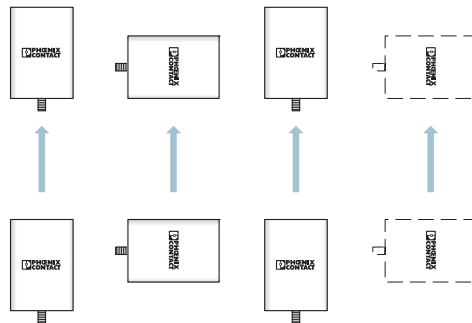

Figure 8-7 Decoupling of wireless paths due to directivity and different polarization levels
- Multiple point-to-point paths, decoupling due to directivity and different polarization levels (see Figure 8-7)